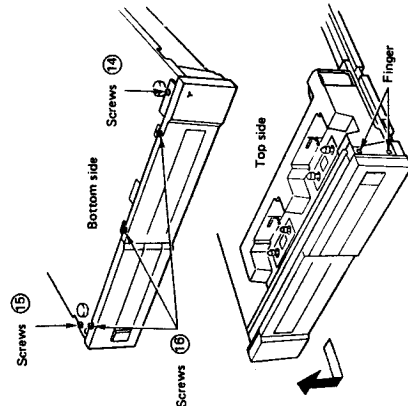

Fig. 12
- 1) As shown in Fig. 12 remove the sub-panel fixing screw (14) and loosen the screw (15).
- 1) As shown in Fig. 12 remove the three front panel fixing screws (16).